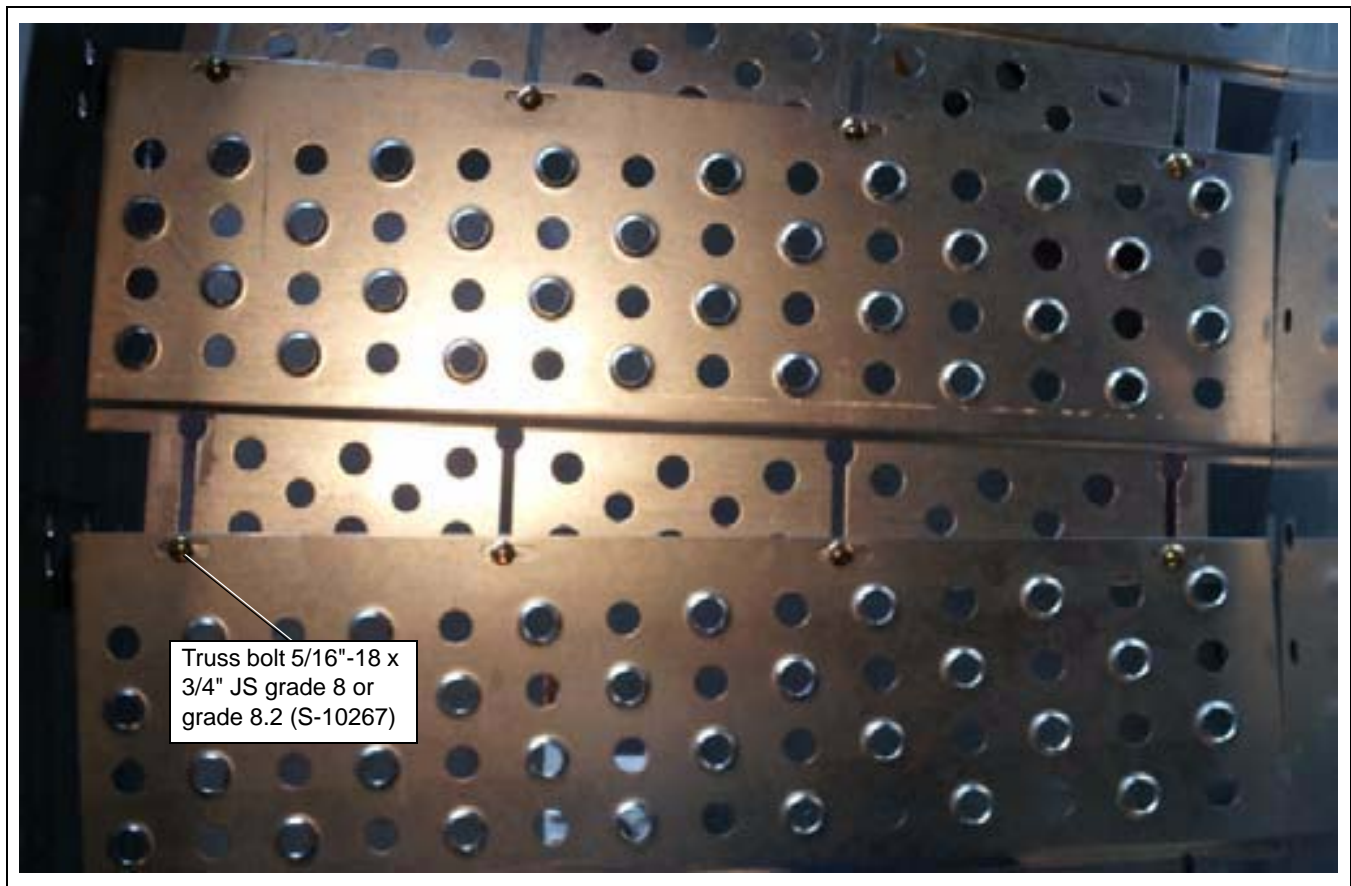

Figure 4N
- Each plank should be overlapped at the edges and bolted with 5/16"-18 x 3/4" JS grade 8 or grade 8.2 bolts (S-10267) and 5/16"-18 JS grade 5 nuts (S-10268). *(See Figure 4N.)*